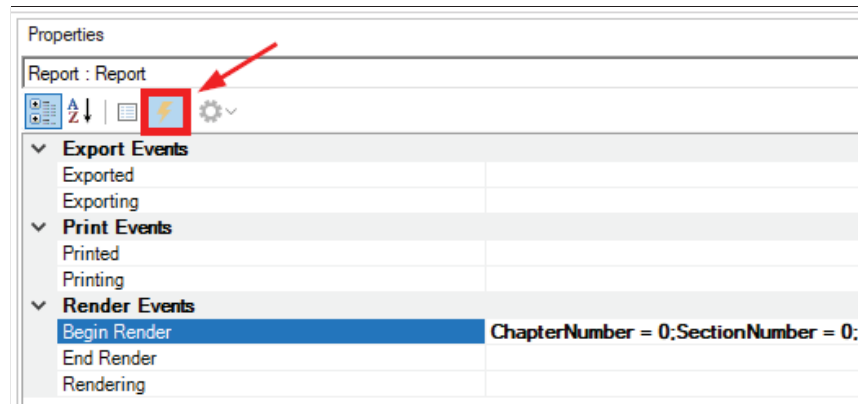

Figure 6.3: Event definition
- Click on the grey area in the page design area to select the report itself. In the *Properties* to the right, switch to the events tab as shown in Figure 6.3.